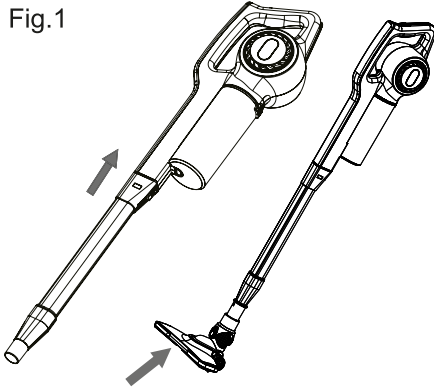

Fig.2
- ◆ To disconnect the extension tube from the vacuum cleaner, press the button on the rear of the extension tube and pull. (Fig.2).